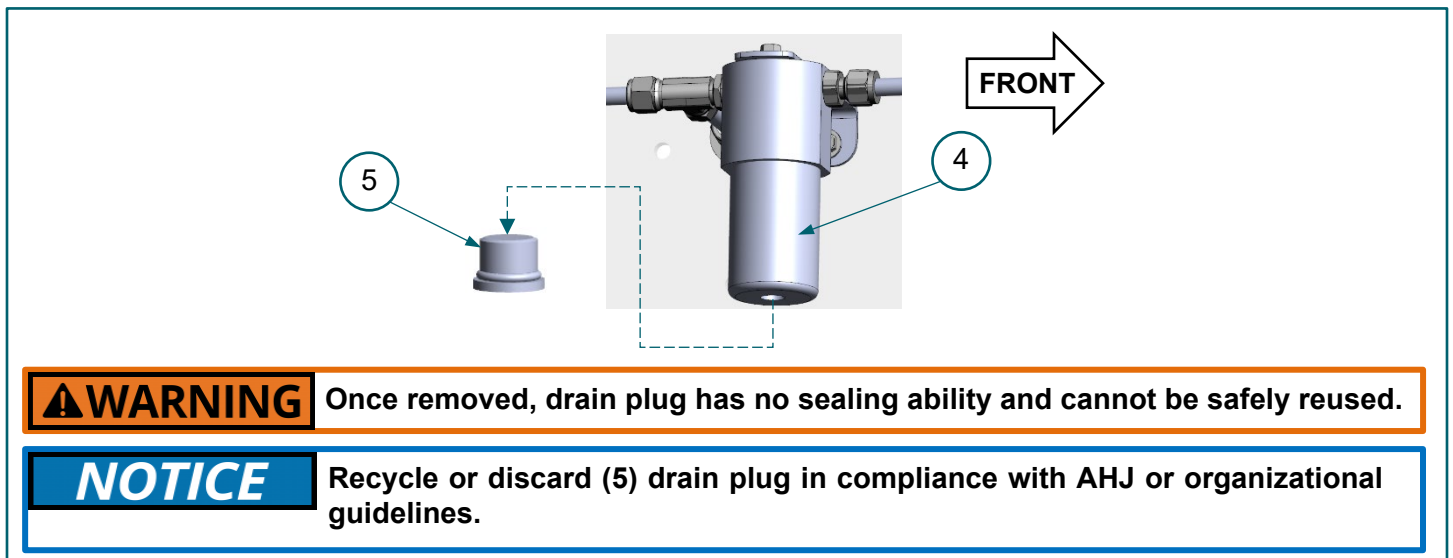

FIGURE 2-3. (4) HP fuel filter assembly, (5) drain plug (removed)
7. Remove (5) HP fuel filter drain plug and allow any remaining fuel pressure to escape from (4) HP fuel filter assembly before proceeding to retrofit kit installation. FIGURE 2-3